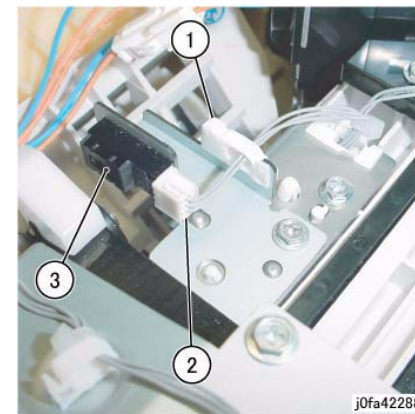

Figure 3 Removing the Eject Home Sensor
8. Remove the Eject Home Sensor (Figure 3):